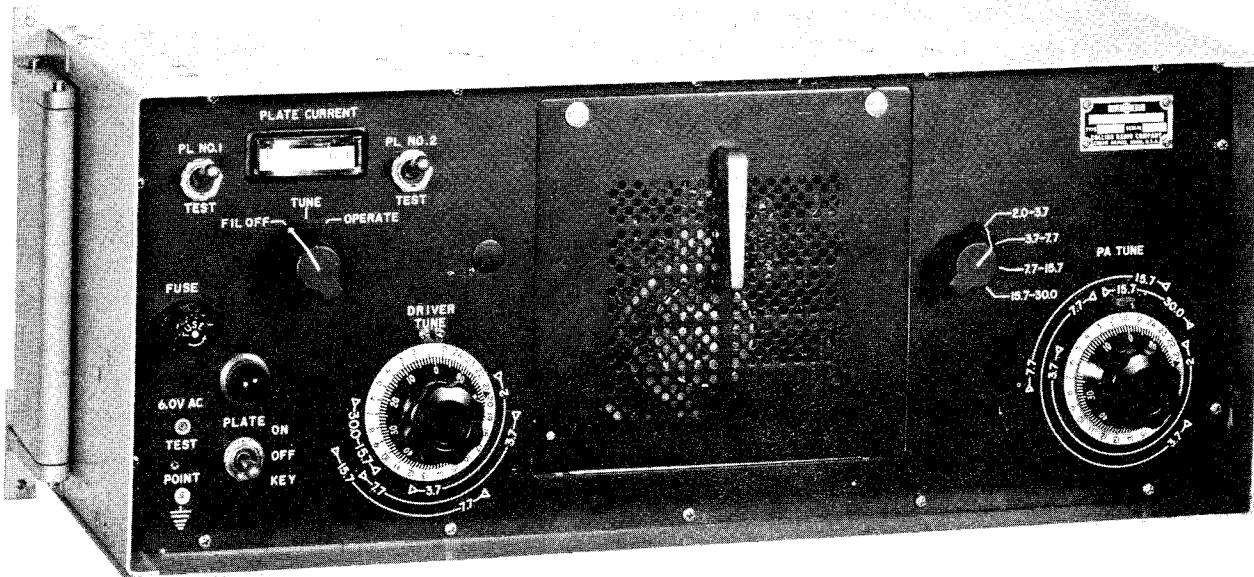

Figure 1-2. Radio Frequency Amplifier AM-2061/URT
b. RADIO FREQUENCY AMPLIFIER AM-2061/URT. - (Refer to figure 1-2.) The AM-2061/URT is a two-stage r-f power amplifier supplying an output of 500 watts peak envelope power (PEP) from a 0.15-watt-input signal. The AM-2061/URT contains a driver stage, a power amplifier stage, and a transmitter gain control (tgc) circuit. The plate circuits of the tubes are manually tuned over the 2.0- to 30-mc range.